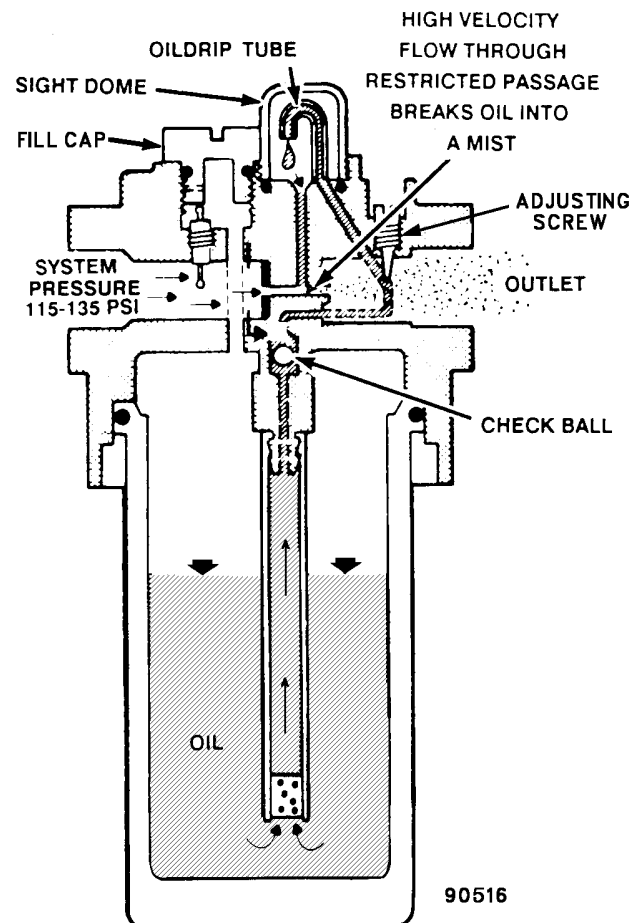

FIGURE 3-6. AIR LUBRICATOR
1. With engine shut down and air pressure released, remove fill cap (Figure 3-6).